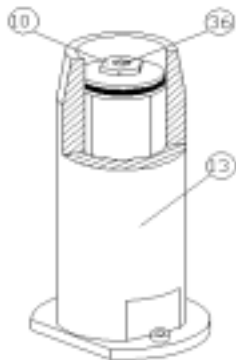

FIG.12
By turning the aluminum cap (10) clockwise raises the tongue and turning it anti-clockwise will lower it. Once the adjustment has been made, fix the setting by tightening the screw (36) inside the cap. FIG. 12.